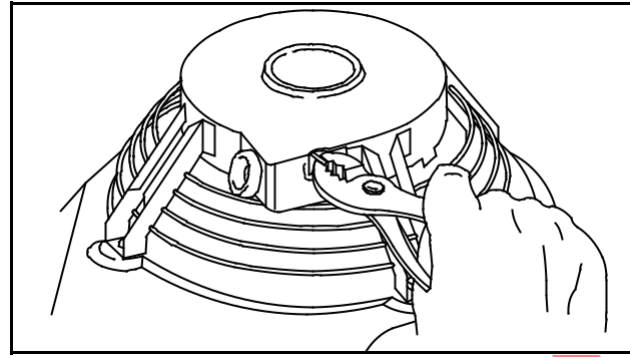

Fig. 3 – Remove Spring
5. Grasp outer end of spring with pliers and pull out of housing as far as possible, Fig. 3.